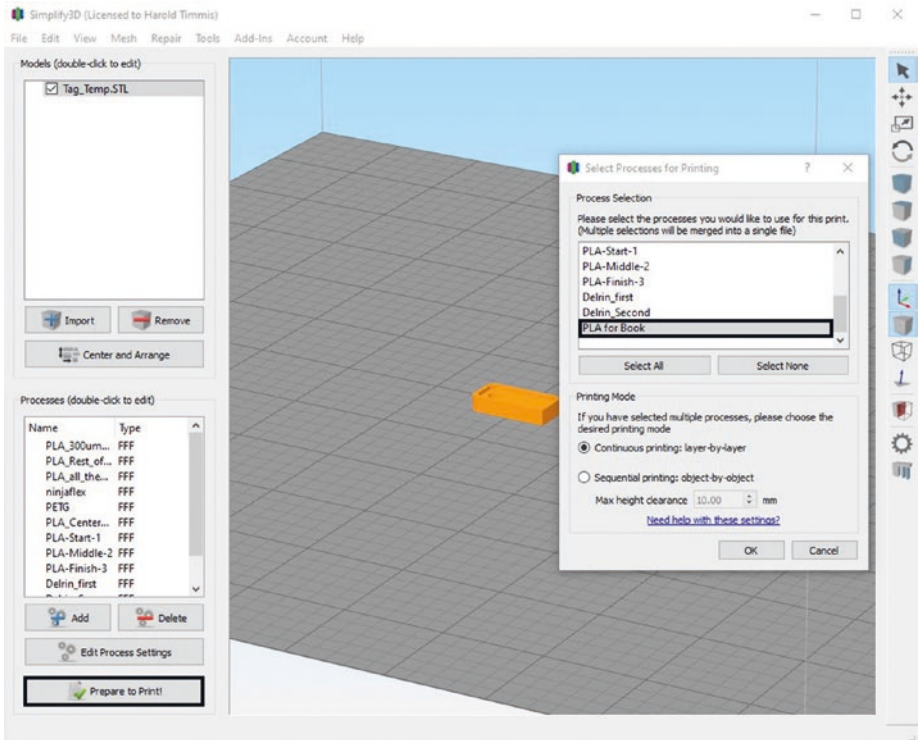

Figure 4-52. Click the “Prepare to Print!” button and select the process and click OK
9. Now that you have the process sorted out, you will need to click the “Prepare to Print!” button which you will then need to select the process you want to use for this print. See Figure 4-52.